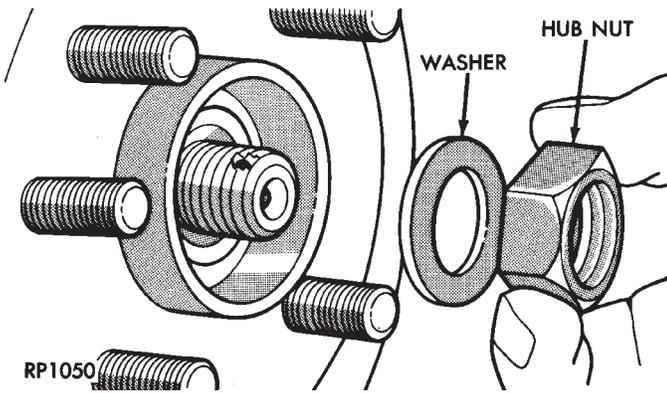

Fig. 3 Remove Hub Nut & Washer
(3) Raise vehicle, see Hoisting in Lubrication and Maintenance, Group 0.
(4) Remove front hub nut and washer (Fig. 3).